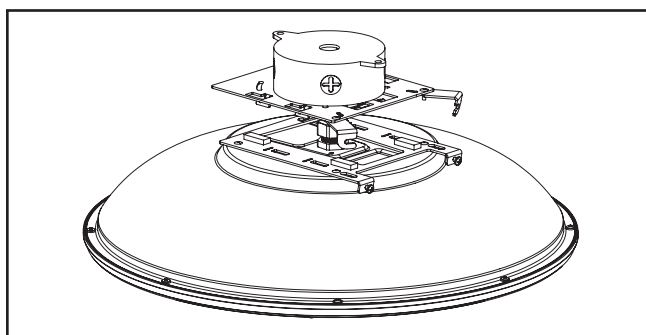

Figure 4
5. Make electrical connections (FIG. 4).